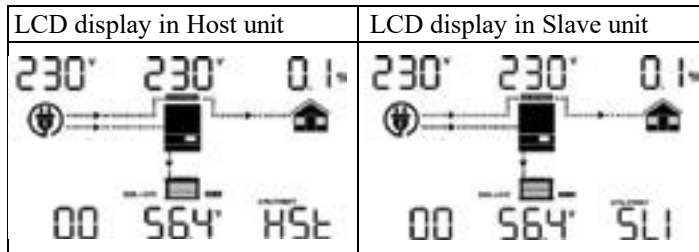

Figure 1-16
8. If there are no fault alarms, the parallel system is fully installed and operational. (*Figure 1-16*)